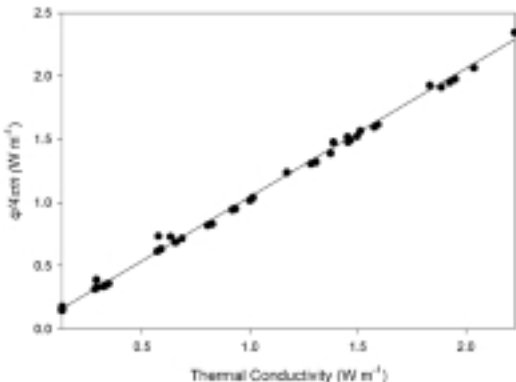

Figure 1: calculated λ_h vs. theoretical λ_h
large enough to ignore the higher order terms, Eq. (5) and (6) give correct values for λ_h and κ . To verify these relationships, realistic values of λ_h and κ were supplied to Eq. (2), varying both λ_h and volumetric heat capacity (ρc_p), and the resulting slope and intercept tabulated for t ranging from 1 to 30 s. Plots of slope vs. theoretical λ_h and $\ln(\text{intercept})$ vs. $\ln(\text{theoretical } \kappa)$ show an exact linear relationship (Fig. 1 and 2, respectively) with low cross-covariance.